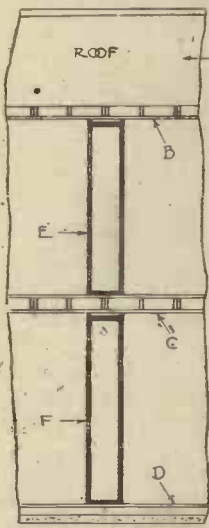

Fig. 77.
- Fig. 77.—NON-LOAD-BEARING PARTITIONS—DOUBLE TYPE. A, B and C—Roof, ceiling and floor structures not deriving support from partitions. D—Ground floor. E and F—Double partition such as those forming cupboards, etc.